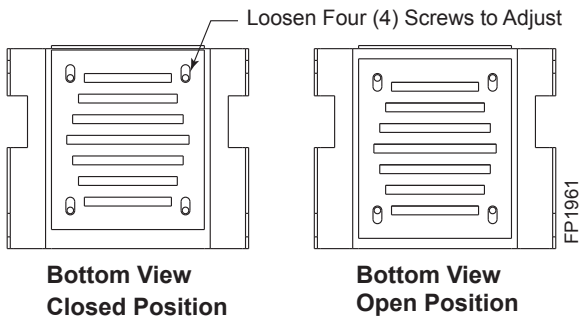

Figure 26 -
NOTE: For propane (LP) units the baffle assembly is completely removed for venting under 20 ft. (6 m). For venting 20 ft. and above, the baffle assembly is to be used with only one (1) baffle plate installed. *Figure 26*